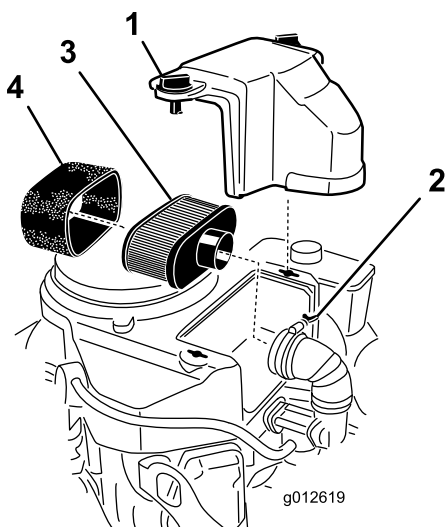

Figure 45
- Clean the paper element by tapping it gently to remove dust. If it is very dirty, replace the paper element (Figure 45).